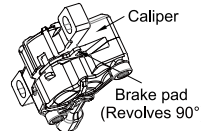

FIG.5
- Rotating the pad 90° degrees and take it off (as shown in FIG.5&6).